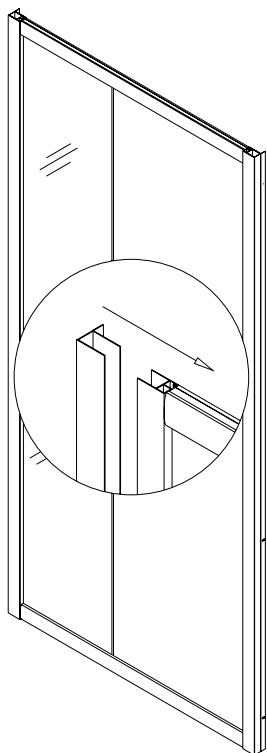

Fig 8
7. Push the **Wall profile (01)** all the way over the **Glass profile (2)**. Be sure to keep a tong with predrilled holes inside of shower (fig 8).